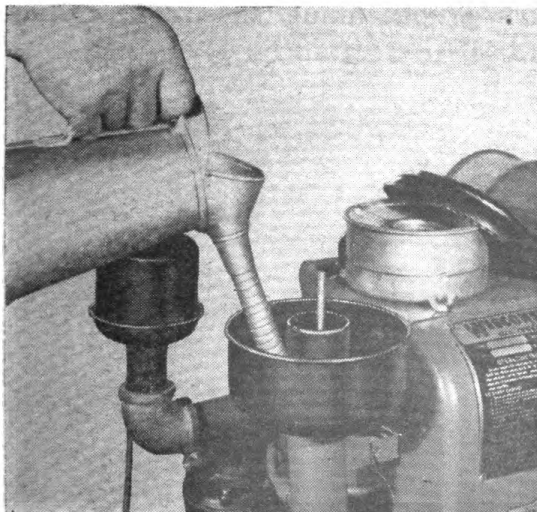
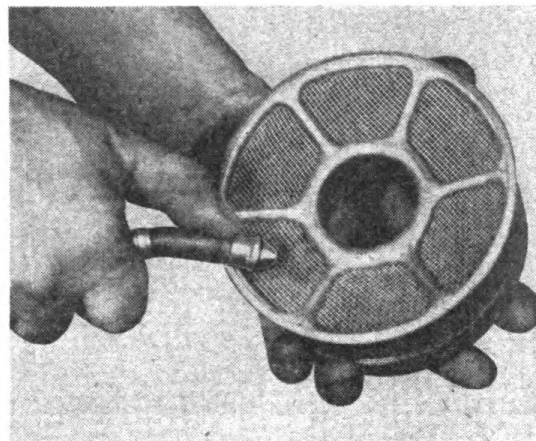

Figure 27
Figure 28
The air hose on reel may also be used for cleaning with air pressure by detaching the air gauge and attaching the small Flex-Tip blow gun (See Figure 28).
b. Fill engine air cleaner (See Figure 27) with S.A.E. 10 oil to indicated oil level. Keep oil to this level. Once each week (daily under very dusty conditions) remove cup and clean out old oil (See Figure 28). Refill to indicated oil level. Check gaskets and replace cleaner.